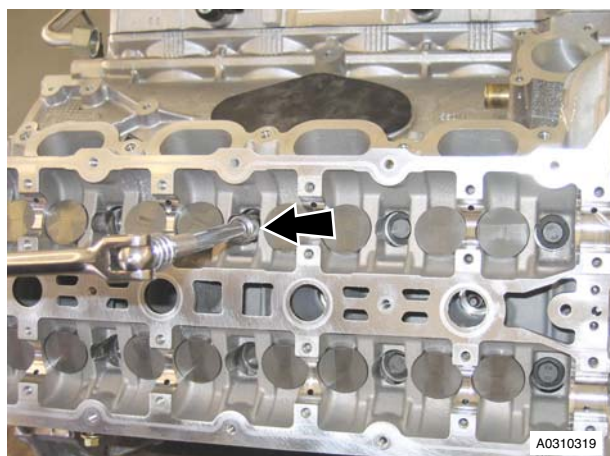

Figure 12
27. Remove bolts (x10), evenly and in stages securing RH cylinder head to cylinder block (see Figure 12).